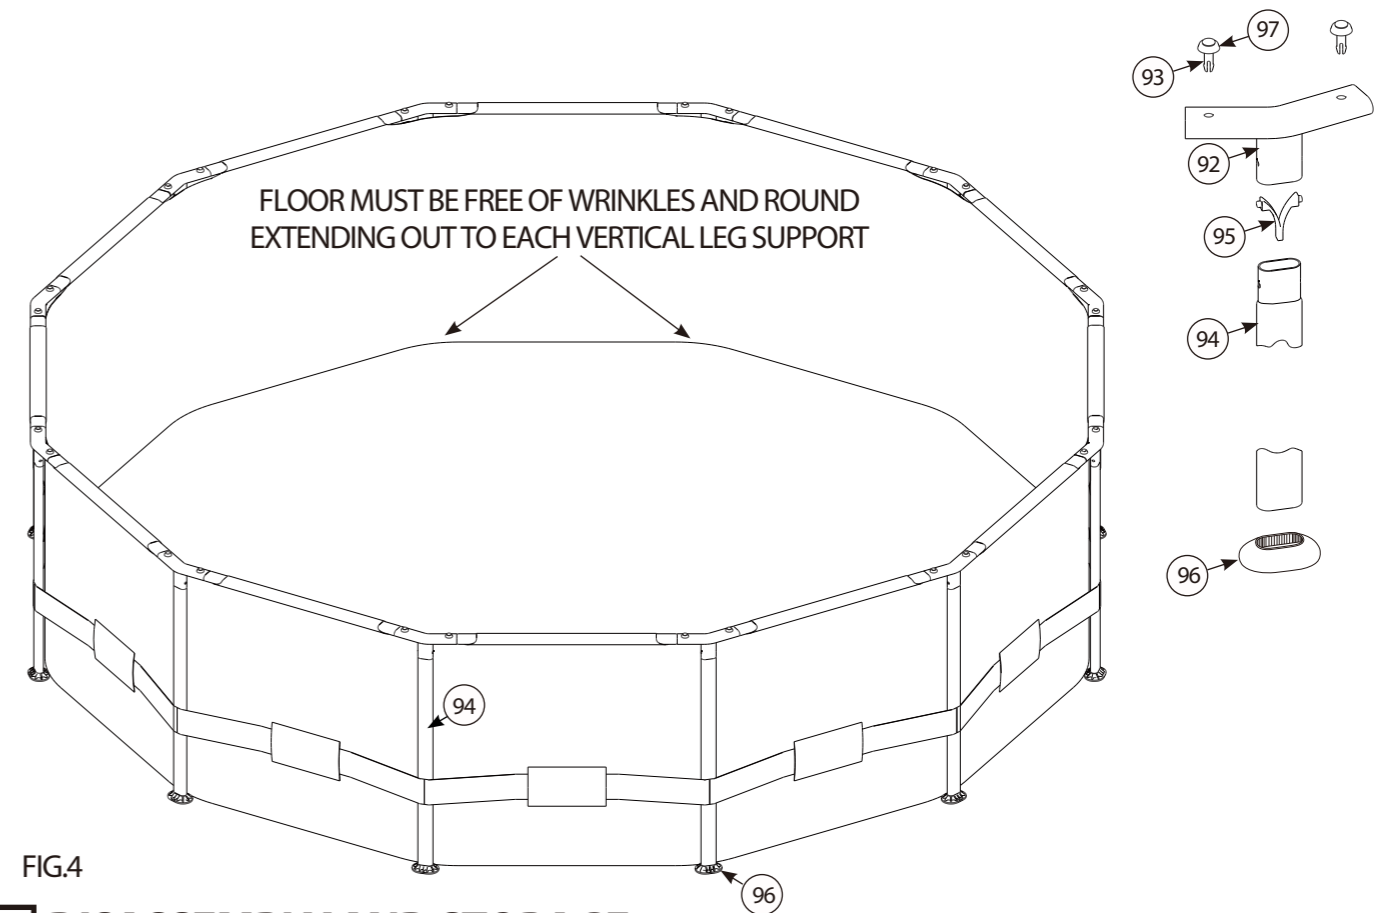

FIG.4
D. Once the top frame is assembled, locate the Vertical Legs (94). The Vertical Leg sections will have a Spring Pin (95) pre-installed at the top end. First, insert the leg down through the belt that runs around the middle of the pool, see Fig. 4. Now, to connect them into the top frame, push the buttons in as you insert the Leg up into the Tee Fitting. Look through the hole in the Fitting as you insert and rotate the pipe until the buttons align with the holes and pop out, locking the leg in place. Finally, take one of the Leg Caps (96) and insert the bottom of the Vertical Leg into it until it stops.
NOTE: AFTER ABOUT 1-INCH OF WATER IS ON THE BOTTOM, STOP FILLING AND SMOOTH WRINKLES OUT OF THE BOTTOM OF THE POOL MAKING SURE THE POOL'S BOTTOM IS FLAT AND ROUND EQUALLY IN ALL DIRECTIONS. SEE FIG. 4 BELOW